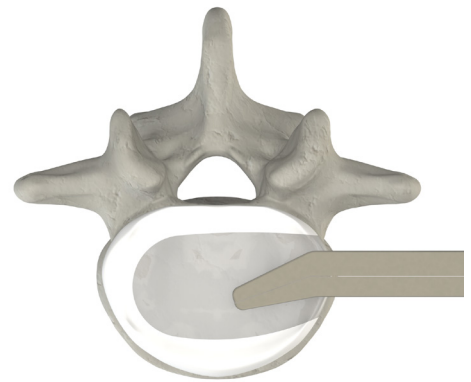

Figure 3
- ▲ A 4WEB Lateral Discectomy Preparation set can be used to expose and remove disc material. (Fig. 3). To promote the fusion process, prepare the vertebral endplate by carefully removing the superficial cartilaginous layers. Take care to maintain the integrity of the cortical endplates.